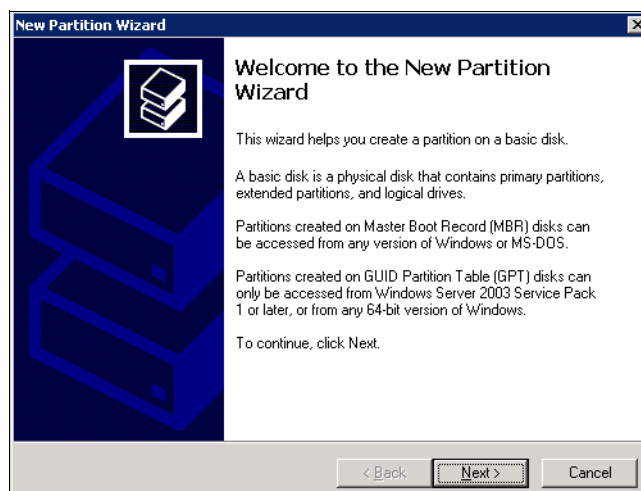

Figure 25-18 New Partition Wizard
7. The New Partition Wizard (Figure 25-18) appears. Click **Next**.